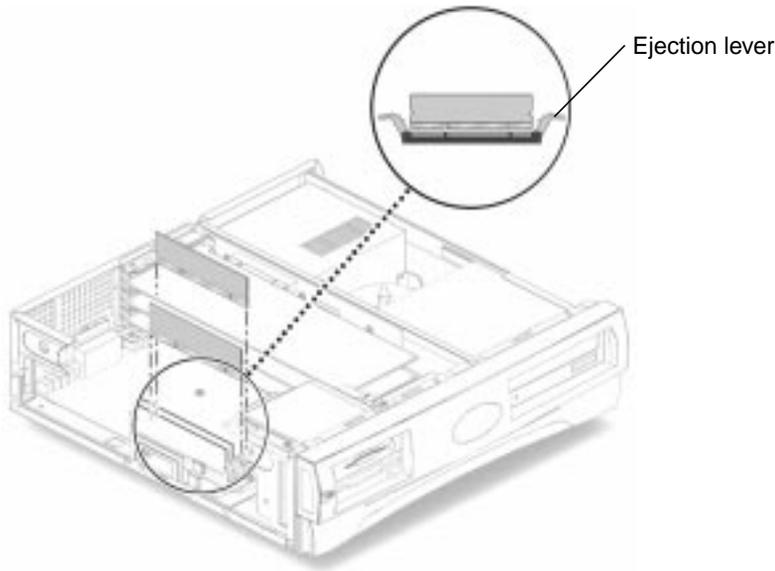

FIGURE 8-5 Removing and Replacing a DIMM
3. **Push the ejector levers at each end of the DIMM connector away from the DIMM (FIGURE 8-5).**
2. **Position the DIMM in the connector, ensuring that the notches on the bottom of the DIMM are aligned with the connector alignment keys (FIGURE 8-5).**